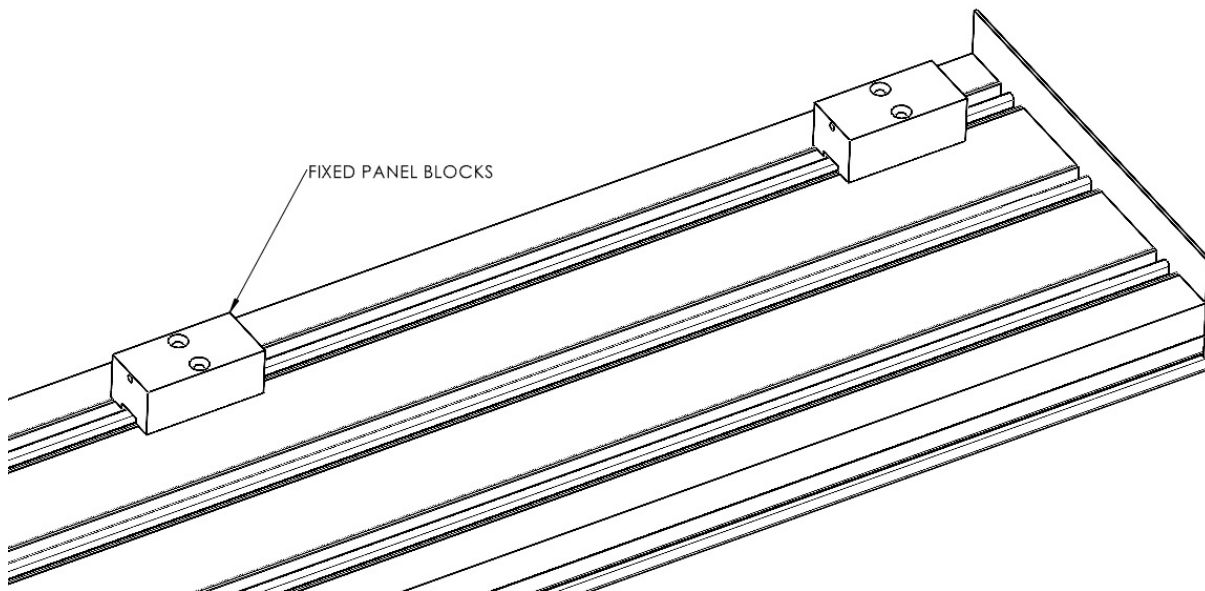

Figure 18
20. If the door system has fixed panels, they will be installed last. Position the adjacent intermediate panel to allow for the fixed panel interlock to overlap. Ensure that the fixed panel is a few inches away from the jamb with the interlocks overlapping each other. Lean the top of the panel into the corresponding head track and lower the panel straight down onto the sill assembly. The fixed panels will rest on fixed panel blocks to position it at the correct height over the T-sill. (See Figure 18.)